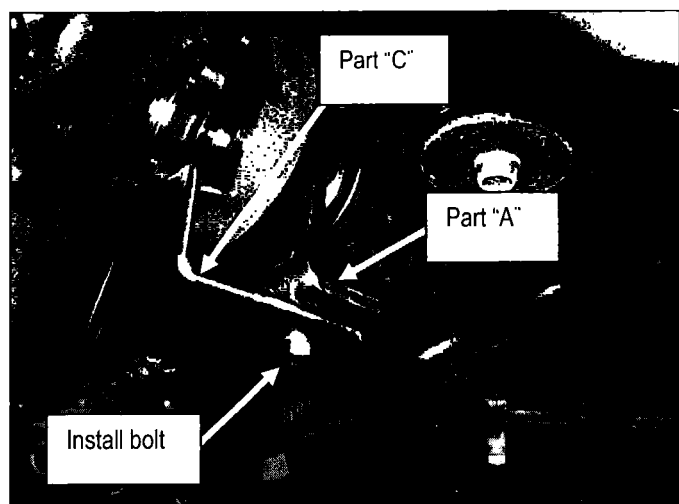

Figure 64
- d. Install jack adapter "part C" as shown in Figure 64.
- e. Install and tighten the bolt that holds "part C" to "part A" as shown in Figure 64.